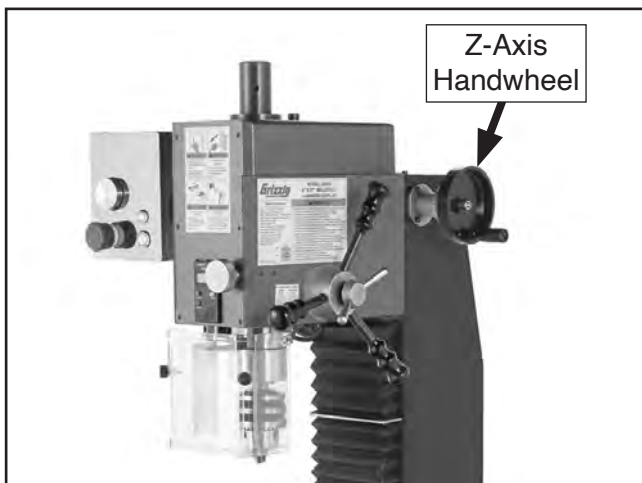

Figure 37. Location of Z-axis handwheel (G0982 shown).
3. Use Z-axis handwheel (see **Figure 37**) to adjust headstock height, then tighten Z-axis lock handle.